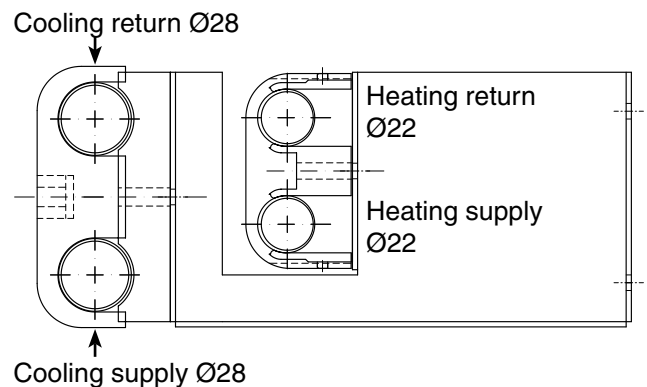

Figure 4.
1. Start with the bottom Ø22 mm pipe and fasten it as figure 4.